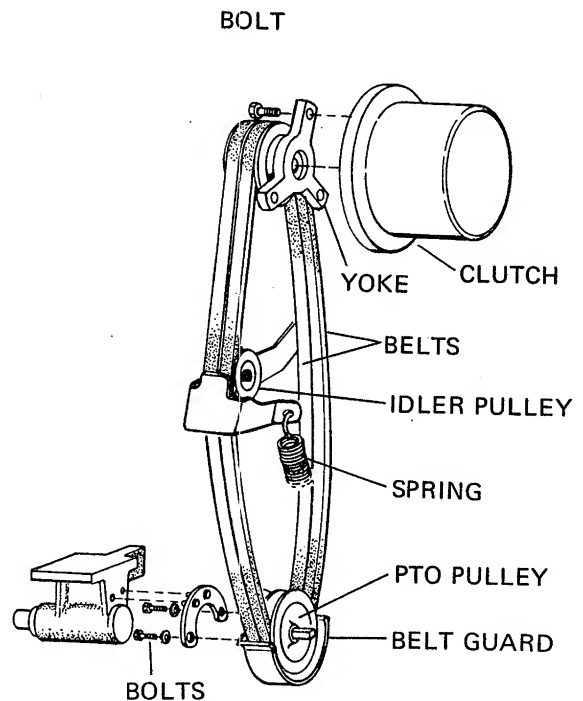

FIG. 6
PTO BELT REMOVAL — To remove the belt: (see Fig. 6)
1. Follow the steps to remove the Power Take Off belts shown in Fig. 6.
2. Attach the Power Take Off belts. (see Fig. 6)